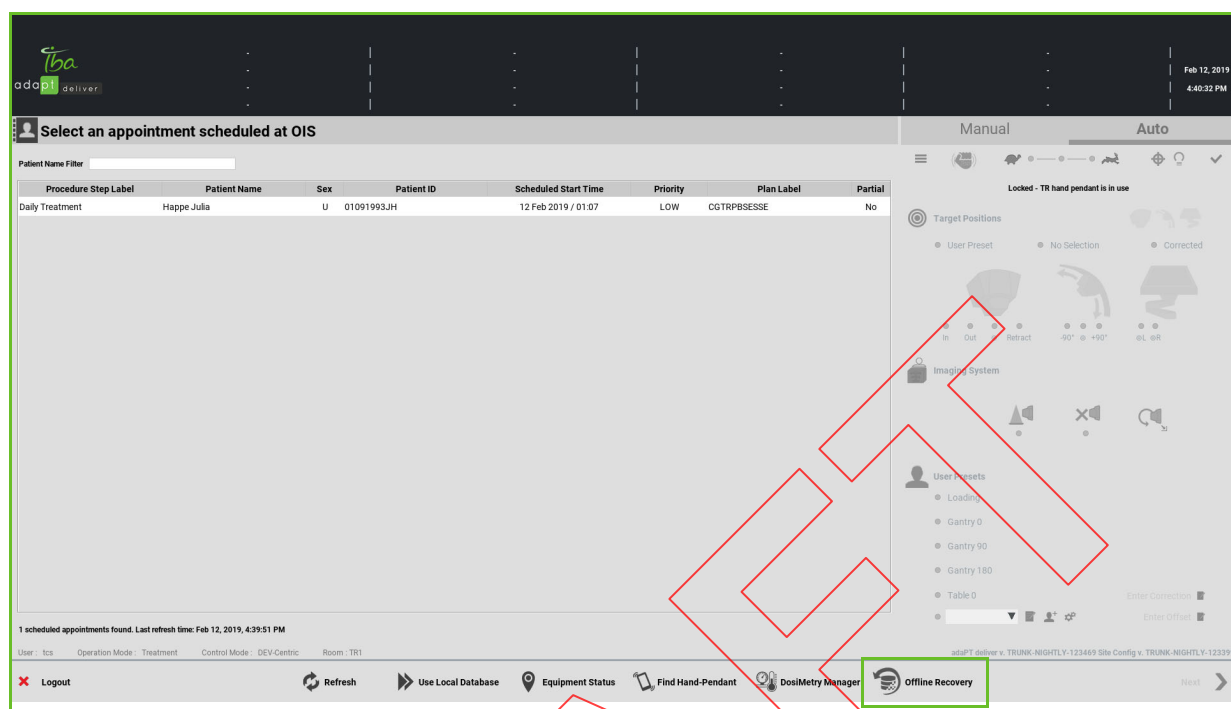

Figure 39-12. Recovery after termination by PTS - Offline recovery
- This screen has the button **Offline Recovery** (Figure 39-12), which is the starting point of the recovery process.
1. Click **Offline Recovery** in the Session Definition screen (Figure 39-12).